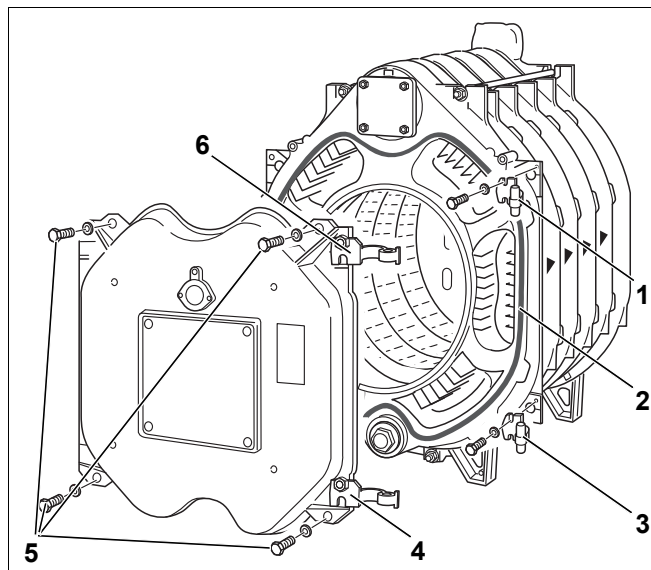

Fig. 26 Hooking on the burner door
Both hinges are fitted at the factory (Fig. 26, [4] & [6]) to the r.h. side of the burner door. To convert to l.h. hinges, fit the hinge parts to the l.h. side of the burner door.
- Secure each hinge pin (Fig. 26, [1] & [3]) with 2 No. M 12 x 50 screws on the front section. Fig. 26 shows this as r.h. closing. Fit the hinge pins to the l.h. side for l.h. closing.
- Stick sealing cord (18 mm dia.) into the front section using adhesive. Position the butt ends of the gasket string on the side of the section (Fig. 26, 2).
- Close the burner door and secure with 4 screws (M16 x 140) (Fig. 26, [5]). Tighten the screws alternately in a cross pattern.